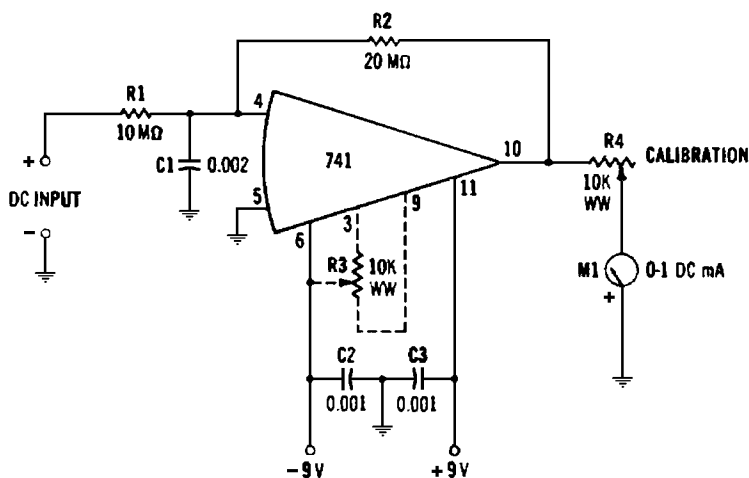

Fig. 3-25. Electronic dc voltmeter.
Fig. 3-25 shows an IC version of an old favorite among basic test instruments, the electronic dc voltmeter. Like its predecessors, the vacuum-tube voltmeter, transistor voltmeter, and FET voltmeter, this instrument offers high input resistance (10 megohms) and a balanced input circuit. In this setup, the integrated circuit (741) operates as a high-input-resistance dc amplifier ahead of a 0–1 dc milliammeter